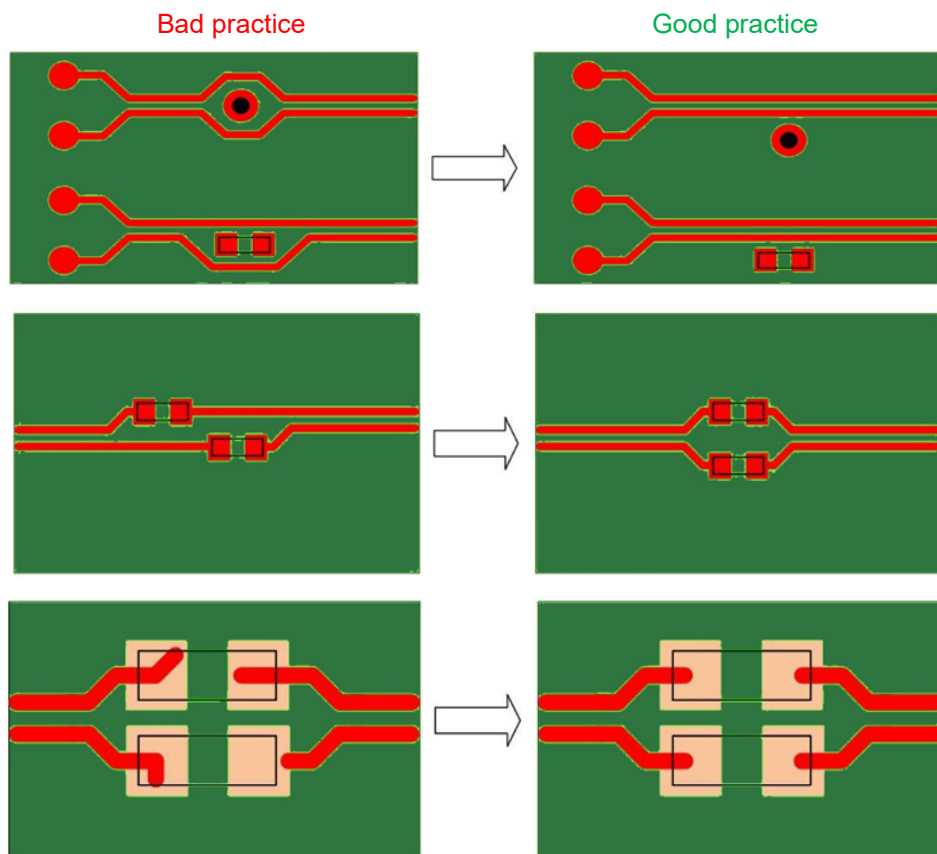

Figure 14. Differential Traces Layout Practices (1)
Differential Traces Layout Practices (1) (see Figure 14)